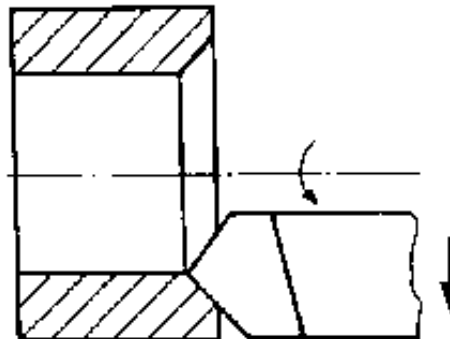

Figure 17 Facing from the inside outwards
- For hollow parts with hard incrustation it is recommended to move the turning tool from the inside outwards when facing (see Fig. 17).